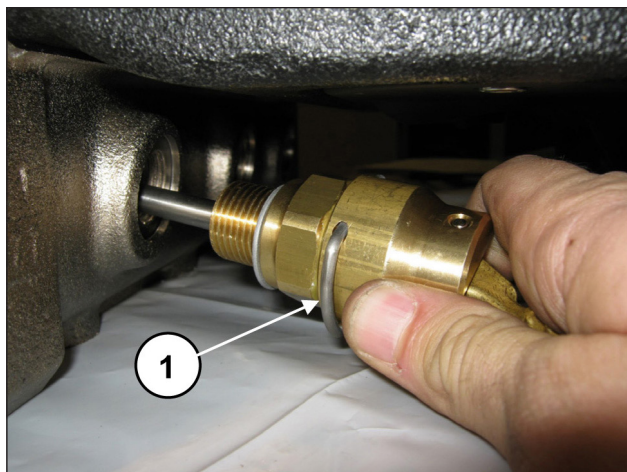
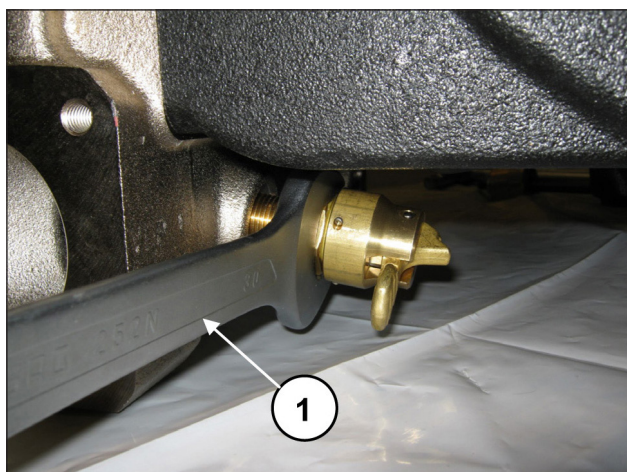

Fig. 170
Fig. 171
Apply the valve opening devices (pos. ①, Fig. 170) and screw them in using a 30 mm wrench (pos. ①, Fig. 171).